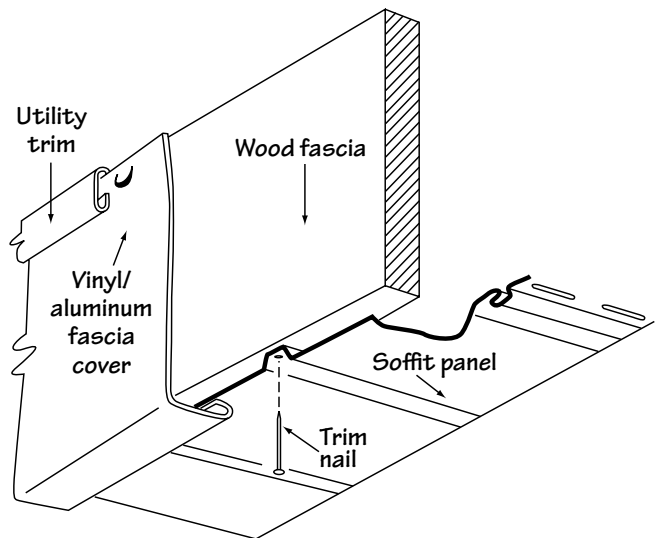

Figure 68.
3. Insert the panel into the channel on the wall, then into the channel at the fascia board (Fig. 68).
**NOTE:** When nailing to the fascia board, use trim nails. Drive the nail through the nail flange and "V"-shaped groove within the soffit panel (Fig. 68). This is one of the rare instances that face-nailing is permissible. Once a soffit panel is face-nailed, it will expand only in one direction, in this case, toward the receiving channel. Be sure to leave space for the full expansion allowance in the receiving channel.